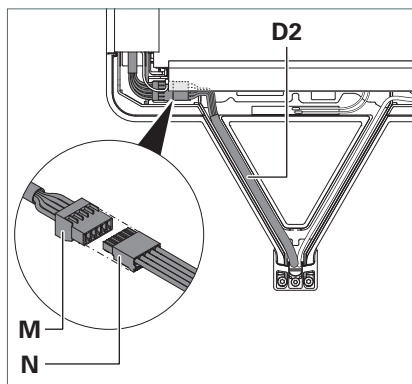

Fig. 7: Connecting the supply cable.
- Take the pin strip **M** out of the compartment under the heat sink, see Fig. 7.